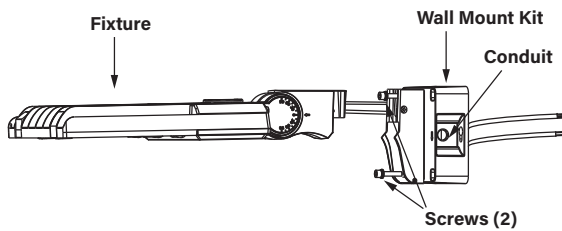

Figure 10
4. Secure the fixture to the wall mount kit with (2) screws (provided). (Figure 10)